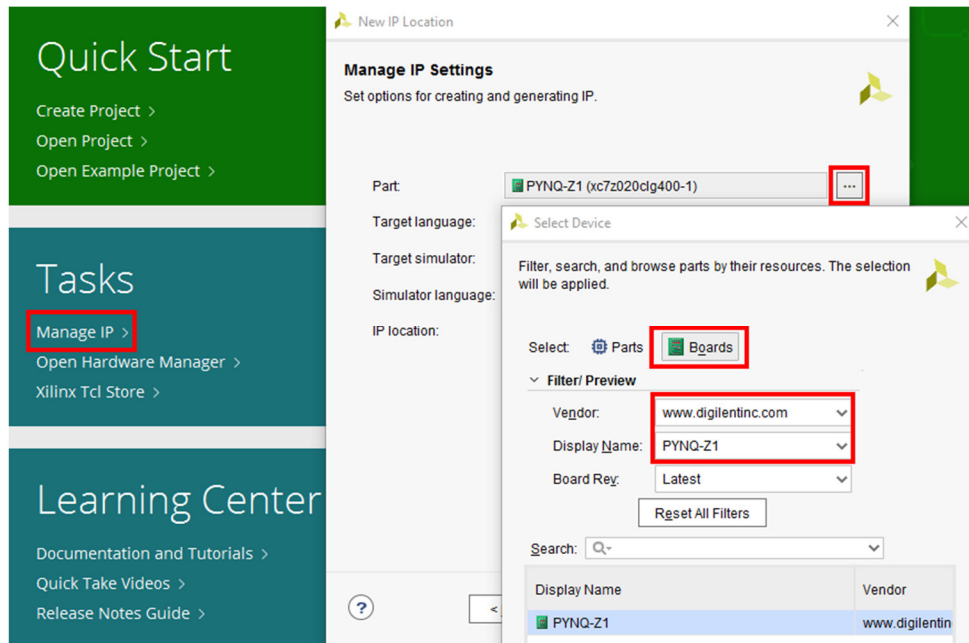

Figure 3: Creating a new IP
2. Select the **PYNQ-Z1** board in the **Manage IP Settings** window. See Figure 3 below. After the **PYNQ**